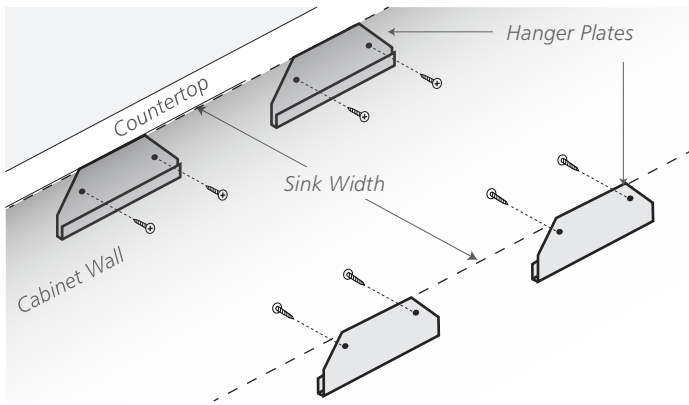

Figure 1
2. Mount the hanger plates to the ends of the cabinet using the supplied screws, making the top of the hanger plate flush with the top of the cabinet. (See Figure 1)